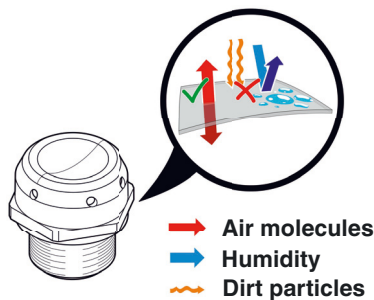

Figure 1 Operating principle of the pressure compensation element
- To prevent condensation, the housings of the SCBs are equipped with a pressure compensation element by default. The operating principle is explained in Figure 1.